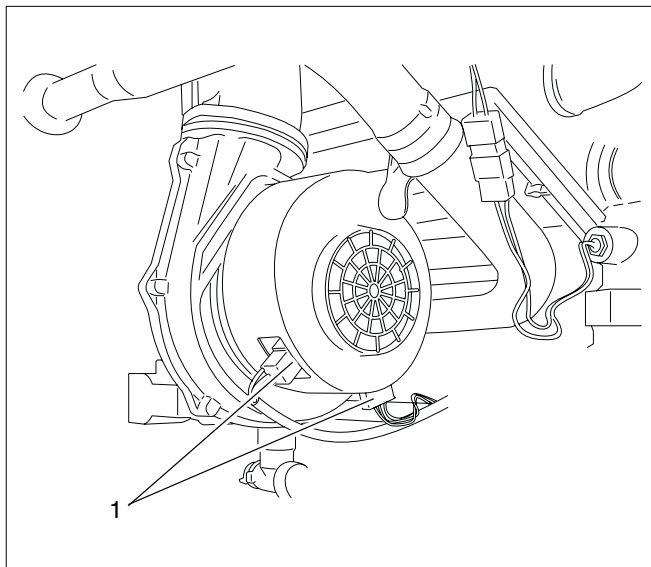

Fig. 106 Disconnecting the cable plug from the fan unit
- Remove both cable plugs from the fan unit (see fig. 106, pos. 1).